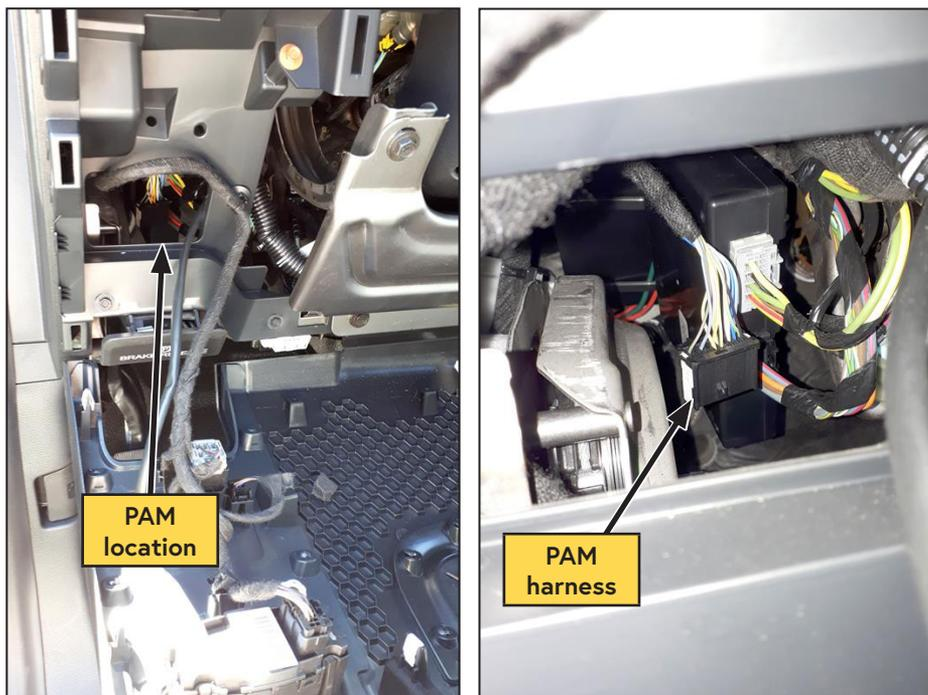

Figure 44 — Parking Assist Control Module (PAM)
- Locate the Parking Assist Control Module (PAM) (located on the driver side, under the dashboard and above the parking brake). The PAM harness will either be plugged into a blanking plug, or a PAM module (Figure 44).